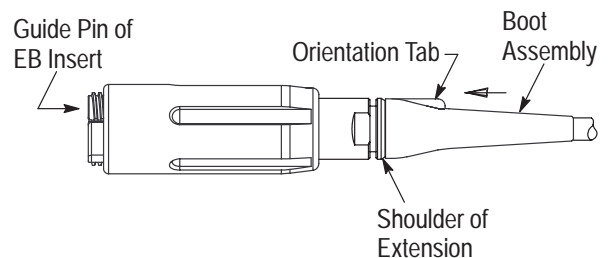

Figure 13
17. Push-fit the housing key onto the housing. Using the T-handle to hold the connector, apply 2 to 3 drops of LOCTITE Adhesive 243 to the threads of the housing. See Figure 13, Detail A.
18. Align the keyways (inside) of the grip ring with the external keys of the housing, and slide the grip ring over the housing and onto the housing key. Hand-tighten the grip ring onto the housing key. See Figure 13, Detail B.
20. Apply the O-ring lubricant (or high-vacuum grease) to the outside diameter and both the front and rear face of the cable seal. Then apply a *thin film* of the O-ring lubricant (or high-vacuum grease) around the cable jacket just beyond the collet nut. Refer to Figure 13, Detail C.
21. Slide the extension (along with the washer and cable seal) against the collet nut. Continue sliding the extension over the housing and into the grip ring. See Figure 13, Detail D. Using the 17mm U-wrench, tighten the extension to a torque between 6 and 10 N-m.
23. Apply LOCTITE Adhesive 480 completely around the cone of the extension. See Figure 13, Detail E.
24. Slide the boot assembly over the cone of the extension until it is tight against the shoulder of the extension. Immediately rotate the boot assembly so that the orientation tab is aligned with a desired reference point (using the guide pin of the EB insert is recommended). See Figure 13, Detail F.
- Added information to Figure 13, Detail C